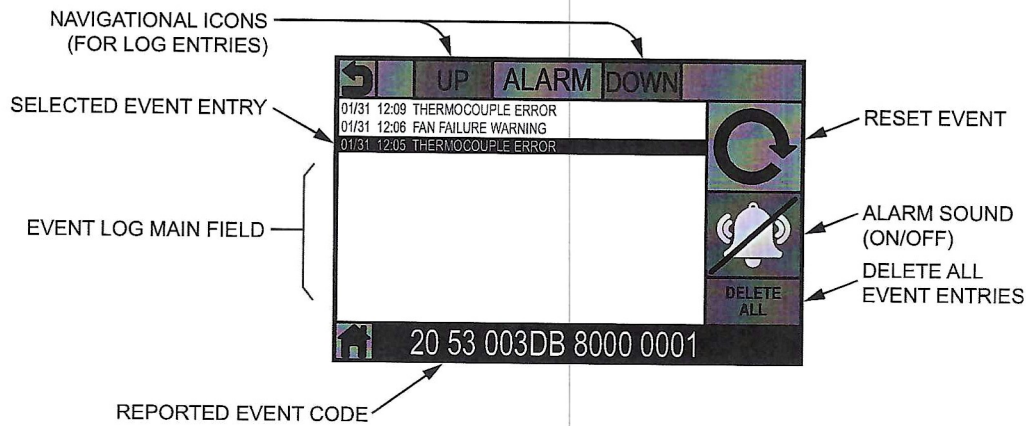
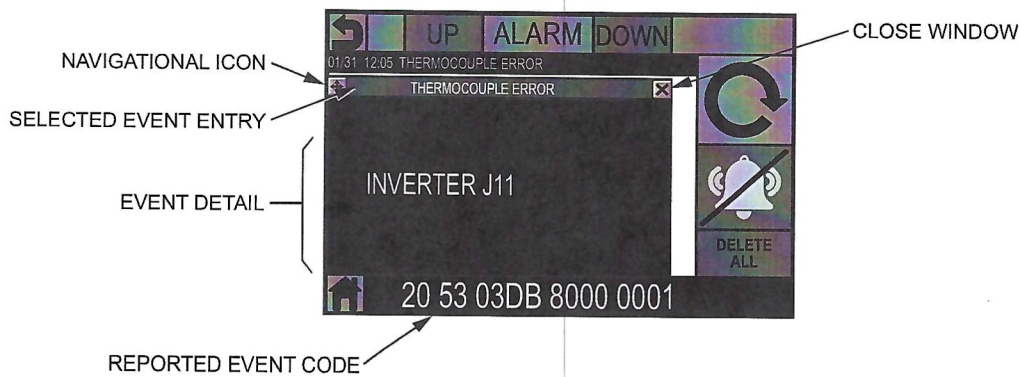

Figure 16. Event Log Screen
Figure 17. Event Detail
4. View the Event Log on the Alarm screen. Refer to *Figure 16* and *Figure 17*.